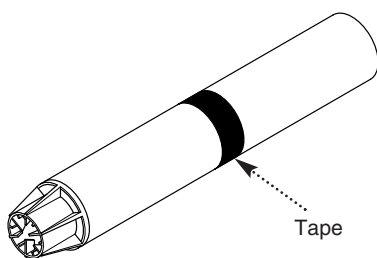

Fig. 49
7. Take the flue terminal assembly and engage on the flue and air ducts. Slide the flues together to the desired flue length. Tape the outer duct sections together with the tape provided ensuring a good seal is made (Fig. 49).